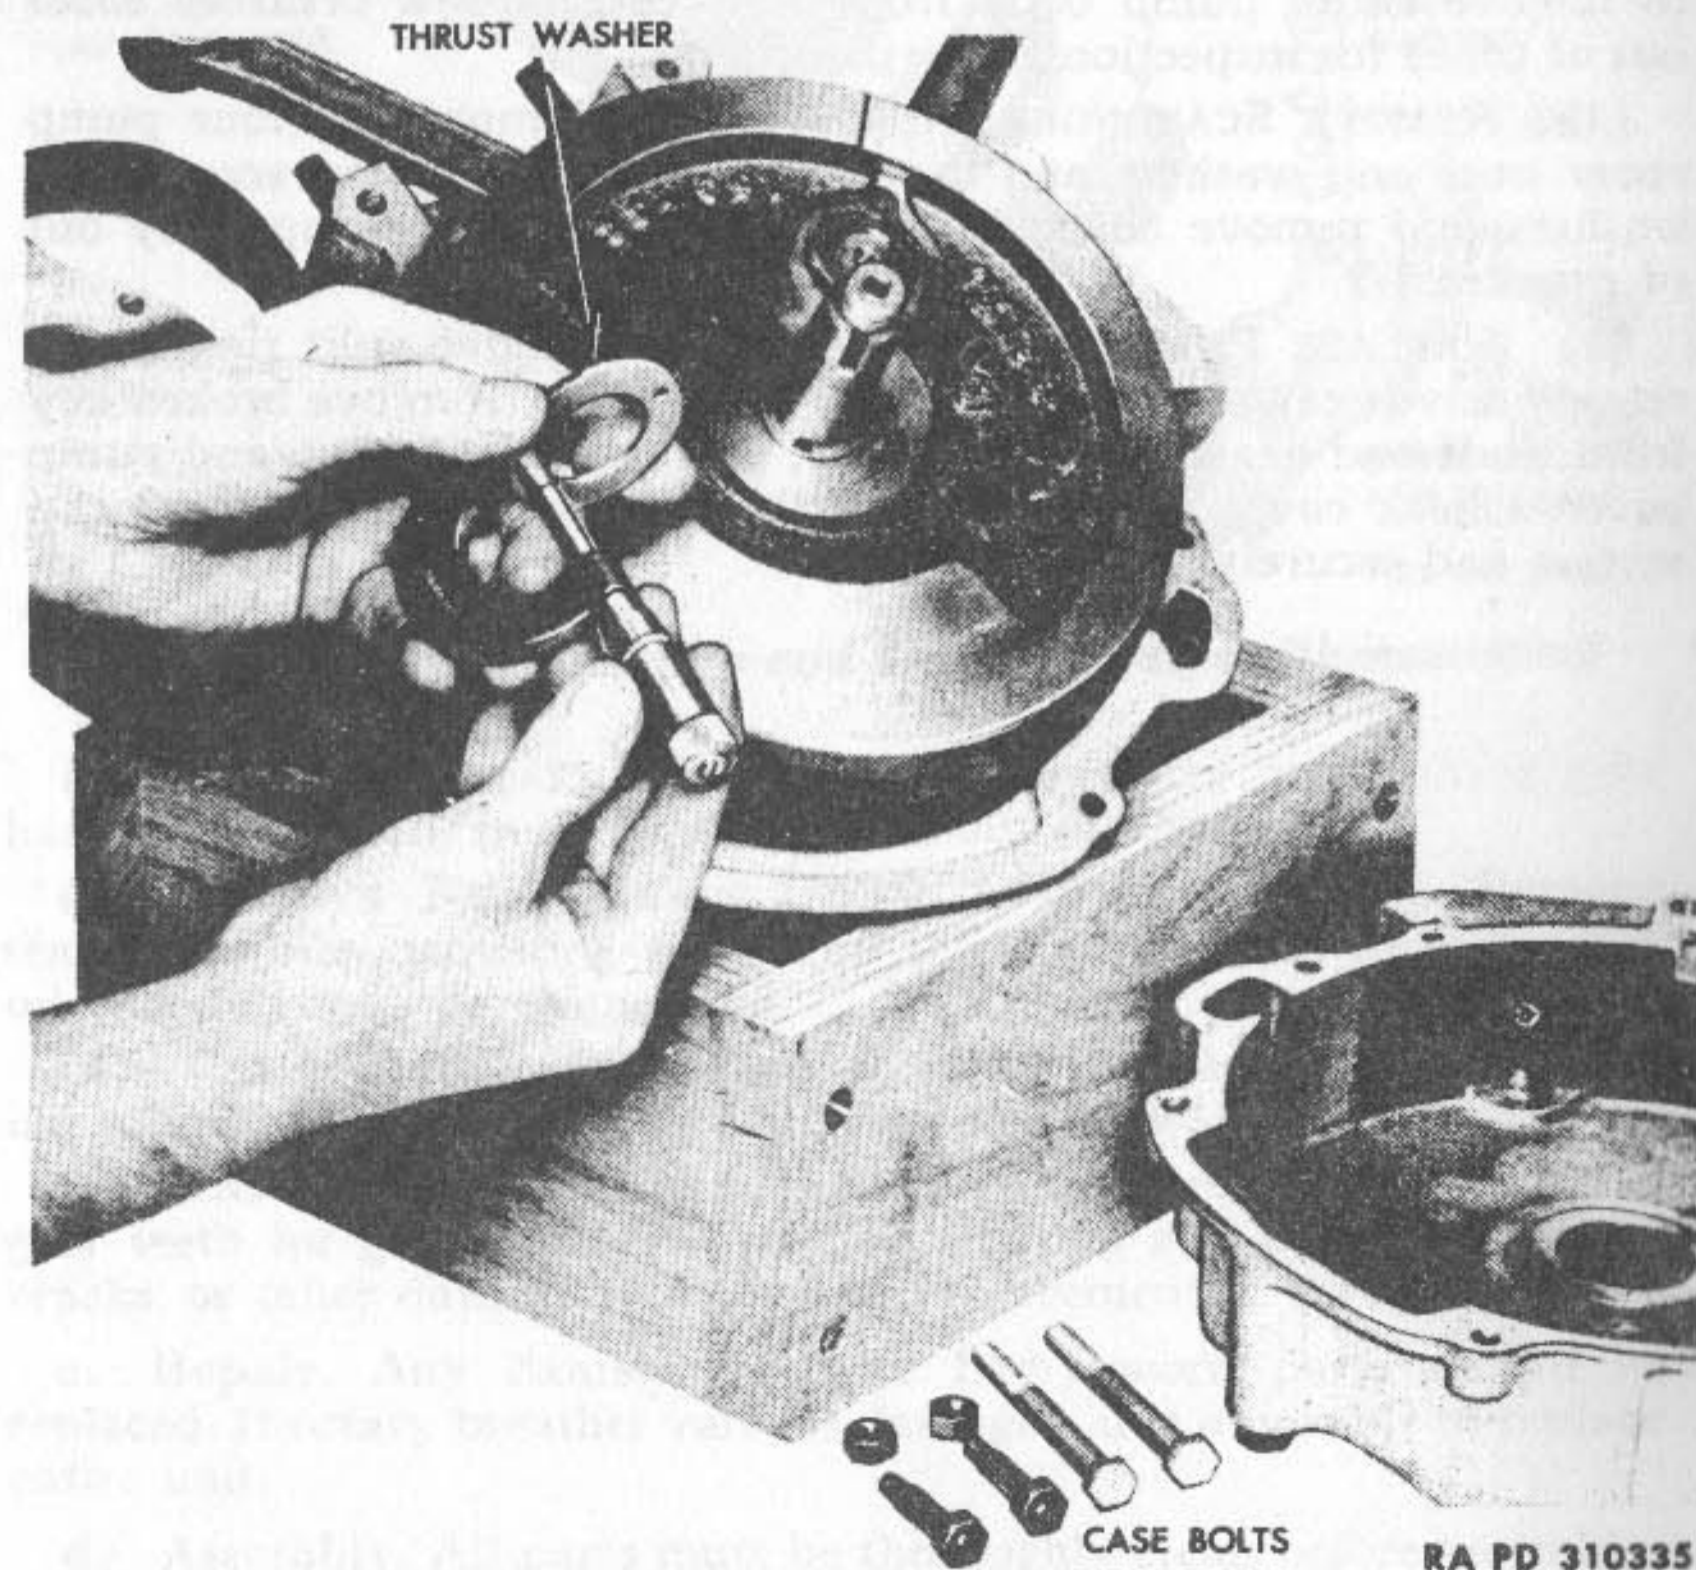
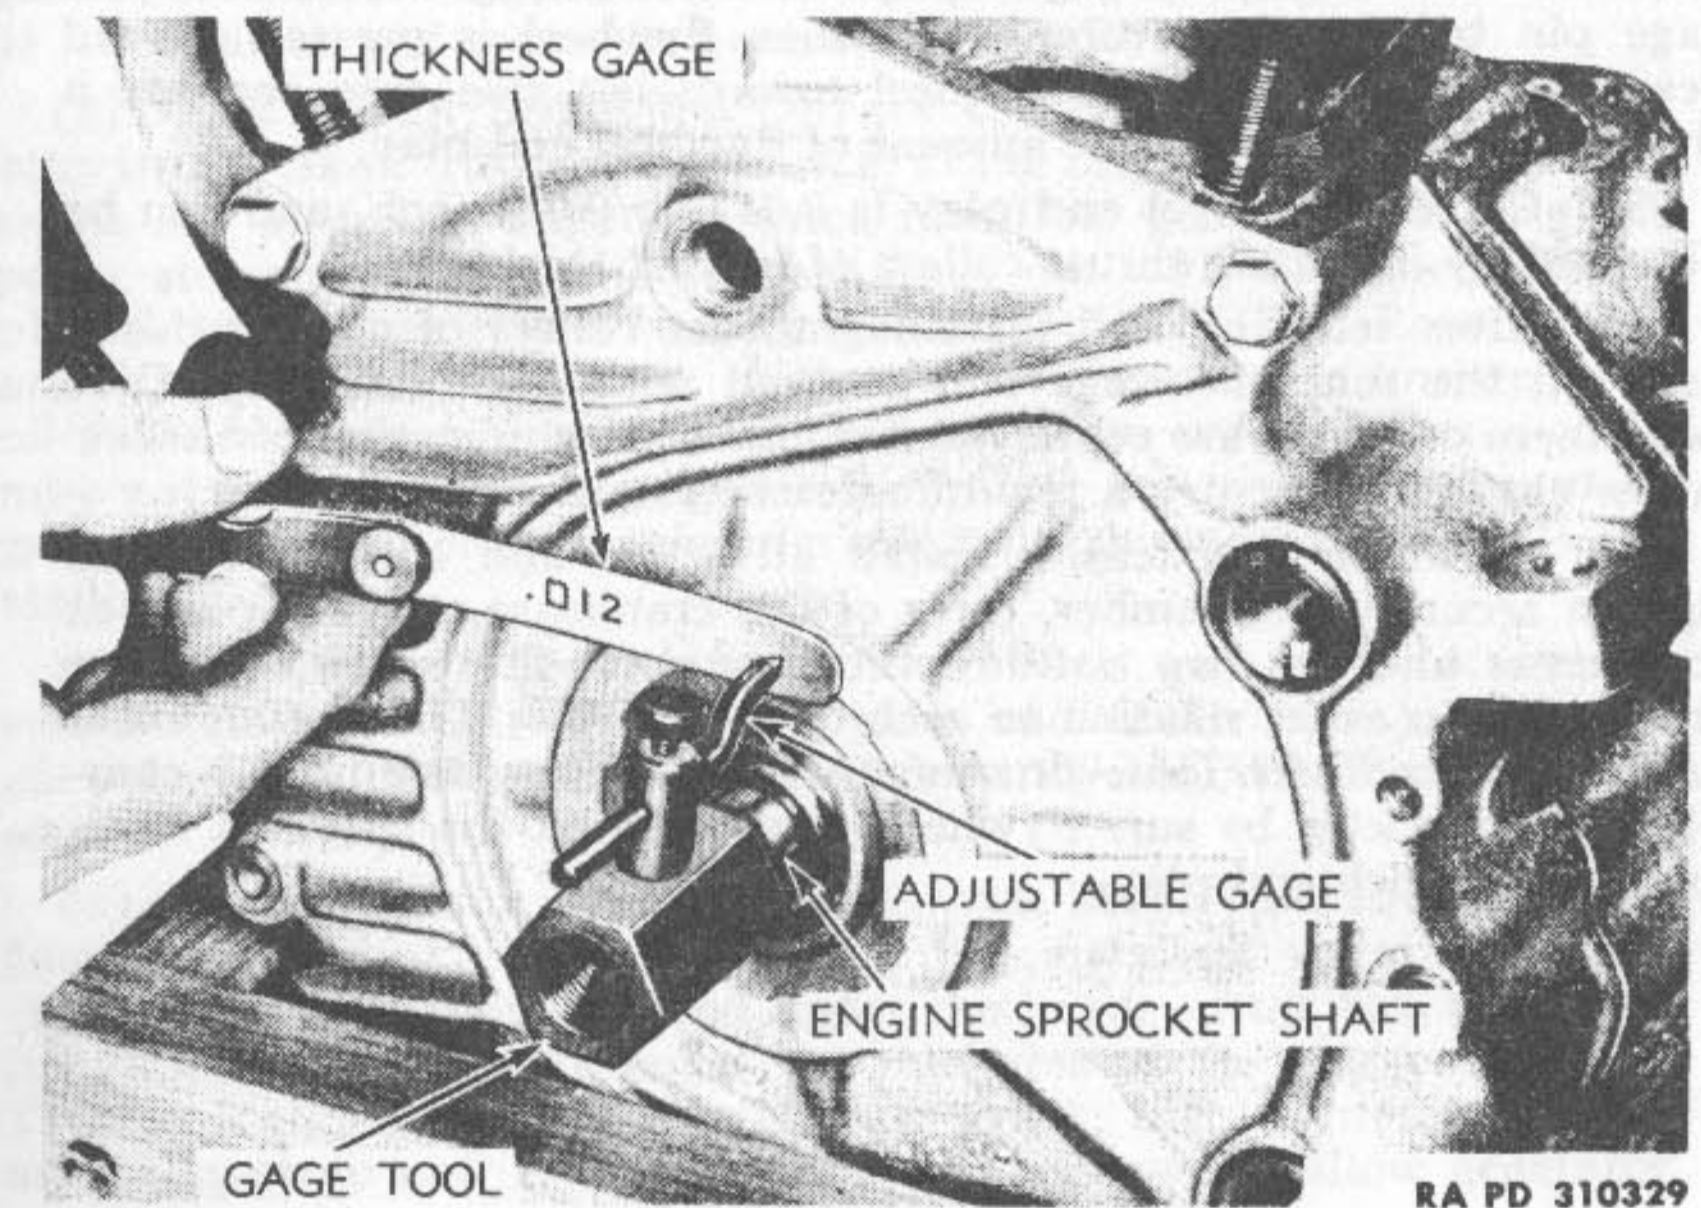

Figure 52—Measuring Thrust Washer Thickness with Micrometer Calipers (41-C-307)
Figure 53—Checking End Play of Flywheels in Crankcase with Gage (41-G-198)
(1) Select two thrust collars (between 0.080 and 0.090 inch) and install them on flywheel hubs, making sure that collars register on dowel pins and seat against flywheel faces (fig. 52). Both thrust collars should be approximately the same thickness in order to keep flywheels centered in crankcases and connecting rod upper ends centered between piston bosses.
(2) Install flywheel assembly in right side crankcase and install roller bearing and bearing washer on sprocket shaft and install left side crankcase. **NOTE:** *No gasket is used between crankcase center joint, nor should joint be shellacked as yet.* Insert the two cap screws at top of crankcases and two studs at bottom of crankcases and tighten to clamp cases securely together.
(3) With crankcase and flywheel assembly supported in vertical position, push back and forth on ends of sprocket and pinion shafts to check end play of flywheel in crankcase. If no end play is found, cases must be disassembled and thinner thrust collars fitted to flywheels. Reassemble and again check end play. If it is found that flywheels now have end play, continue check with end play gage (41-G-198) as follows:
(4) Install end play gage on sprocket shaft (fig. 53), and adjust gage pin to just touch crankcase when flywheel is pressed toward gear case side. Now push flywheel toward left side case and use a thickness gage to determine amount of flywheel end play.
(5) Correct flywheel end play is 0.012 to 0.014 inch, and can be obtained by installing thrust collars of correct thickness.
(6) After selecting and installing thrust collars of correct thickness, oil the main bearings and proceed with final assembly. Give both faces of crankcase center joint a moderate application of shellac. Allow shellac to air-dry a few minutes before assembling cases.
(7) Assemble crankcases, install all studs and cap screws and tighten securely. Remember, three of the crankcase studs, the one at top center and the two bottom studs are drive-fit studs that locate crankcases in exact relation to each other. **NOTE:** *These studs must not be replaced with loose-fit studs.* After crankcase assembly is completed, recheck to be sure flywheels have at least the specified minimum, 0.012-inch end play.